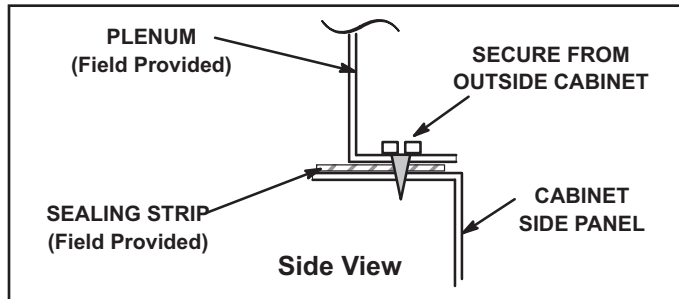
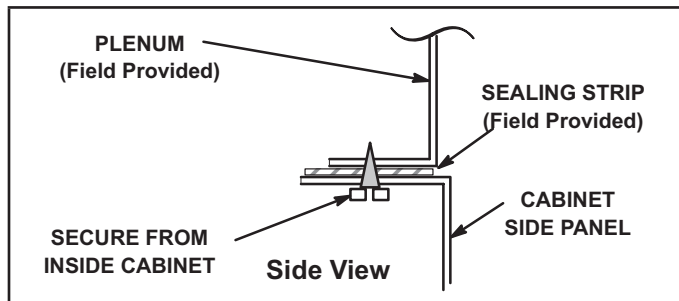

FIGURE 11
FIGURE 12
- 1 - Bottom edge of plenum should be flanged with a hemmed edge (See FIGURE 11 or FIGURE 12).